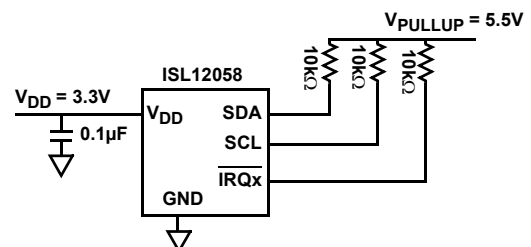

FIGURE 2. EXAMPLE CIRCUIT WITH V_{DD} AT 3.3V AND I^2C AND $\overline{IRQX}$ PULLED UP TO 5.5V
- A system that has the I^2C lines pulled up to 5.5V (or other voltage higher than 3.6V), but has a 3.3V regulator on board requires a simple modification to connect the V_{DD} to 3.3V instead of 5.5V. Figure 2 shows an
- A system that has the I²C lines pulled up to 5.5V (or other voltage higher than 3.6V), but has a 3.3V regulator on board requires a simple modification to connect the V_{DD} to 3.3V instead of 5.5V. Figure 2 shows an example circuit with V_{DD} to 3.3V and I²C lines and $\overline{IRQx}$ pulled up to 5.5V.